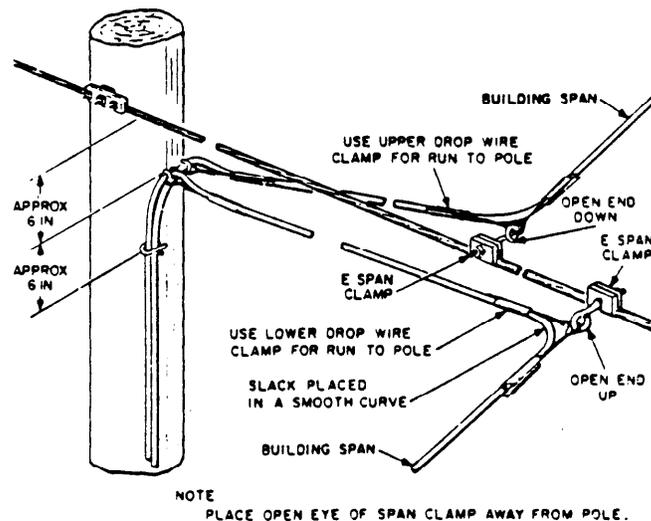

Fig. 23-Spans to Drive Hooks on Pole
6.05 The following procedure should be used to obtain maximum separation between the drop wire and cable (Fig. 23):